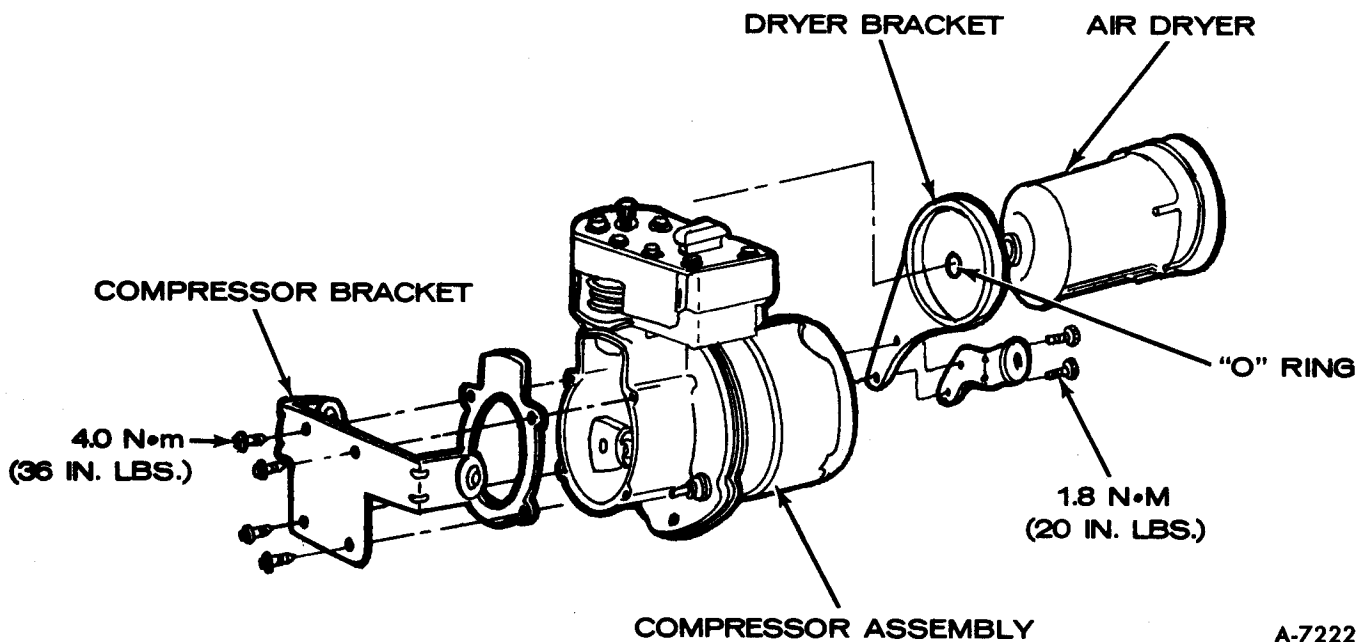

Figure 26—Compressor, Dryer and Mounting Brackets
8. Remove stud nuts securing compressor to mounting bracket, then remove compressor and dryer from bracket. Refer to figure 26.
2. Torque dryer bracket bolts to 1.8 N·m (20 in. lbs.). Refer to figure 26.